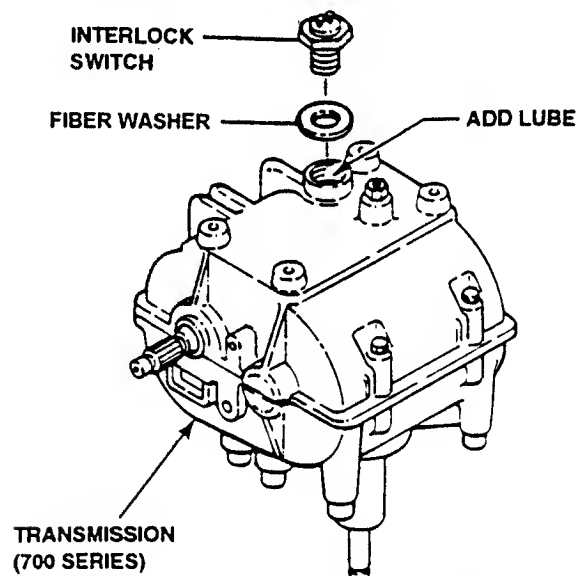

FIGURE 31
2. Remove the fiber washer seated on switch and fill transmission to proper level. See Figure 31.